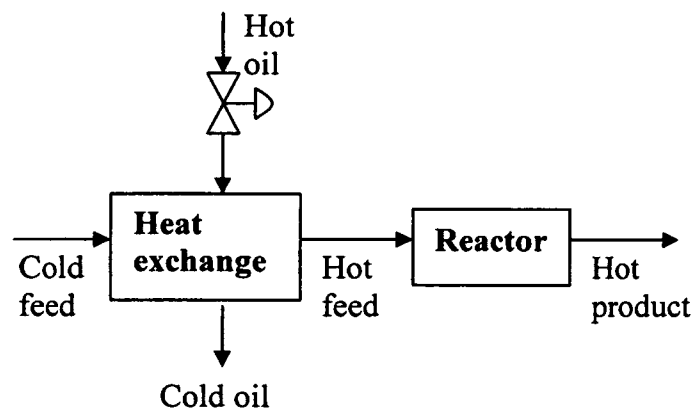

Figure 9. Exothermic reactor with feed pre-heater
- ii) It is proposed to implement heat integration on the exothermic reactor process given in Figure 9. Propose a heat integration scheme for this process.